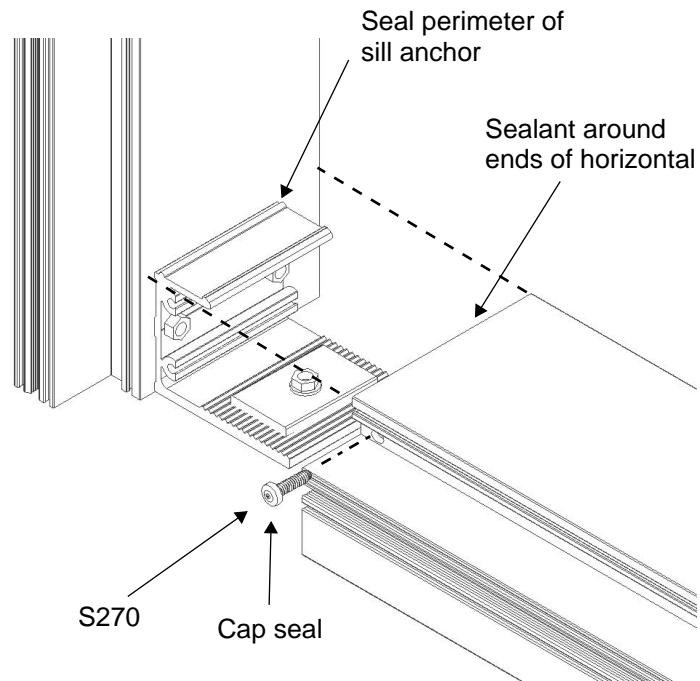

Figure 16: Attach the horizontal to the sill anchor.
- Attach the horizontal to the sill anchor using S270 screws as shown in Figure 16.